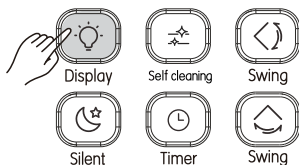

Figure 3.13
1) When the remote controller is in on or off state, press  (see Figure 3.13), and the display of the indoor unit lights up;